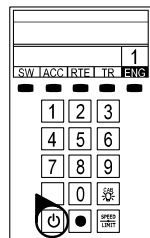

Figure 3. LEGACY start-up
5. Press the Start Up button on your LEGACY CAB-2 Remote, shown in Figure 3. Then, throttle up and move 'em out! Your engine sound will start up, and the locomotive-specific touch screen buttons will populate the remote. For more information on operating your locomotive with the LEGACY system, please refer to the LEGACY section of this manual. Additional information is also found in the LEGACY System Manual, available online at www.lionel.com.